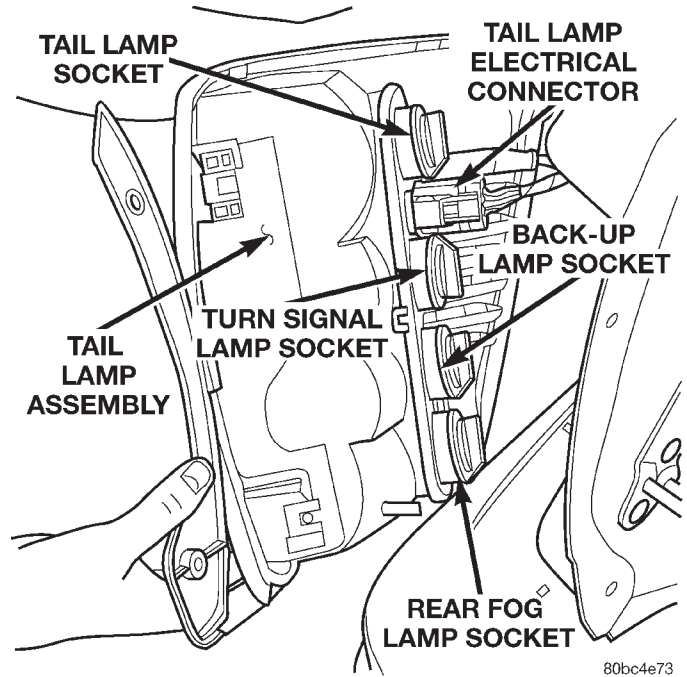
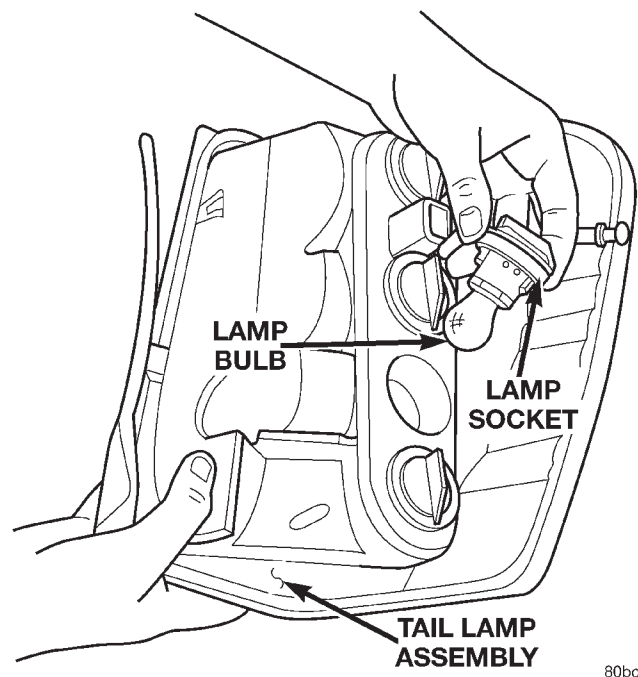

Fig. 13 Tail Lamp Bulb Locations
Fig. 14 Tail Lamp Socket Removal
(4) Remove all lamp sockets from the tail lamp assembly (Fig. 13) by rotating counter clockwise and pulling straight out (Fig. 14).